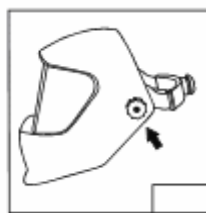

Figure11
2.3 Adjusting the tightness of the screws on the both sides of the mask can change the up-down level of it and can also turn up or put down it. In the welding, the optimal angle is that the line linking the eyes and welding spot is perpendicular to the filter.( to see figure 11)